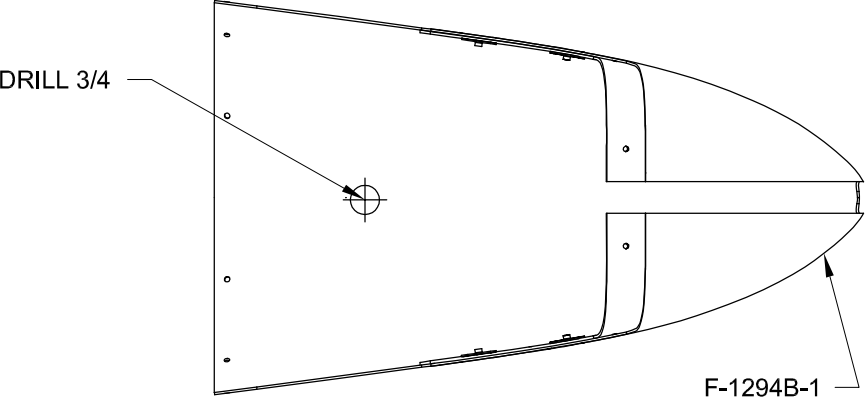

FIGURE 3:
Step 7: Drill a 3/4 hole using a step drill bit within the scribe line at the bottom of the F-1294B-1 Lower Tailcone Fairing as shown in Figure 3.